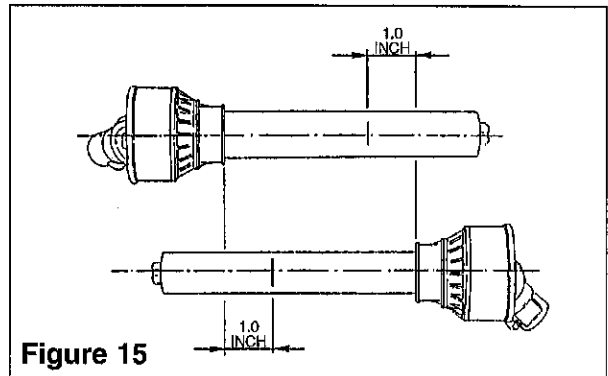

Figure 15
1. Place the two halves of the driveline together, keeping them parallel (see Figure 15). Using a felt-tip pen, matchmark the place where the two halves must be shortened, measuring 1.0 inch from the beginning of each half, as shown in Figure 15.